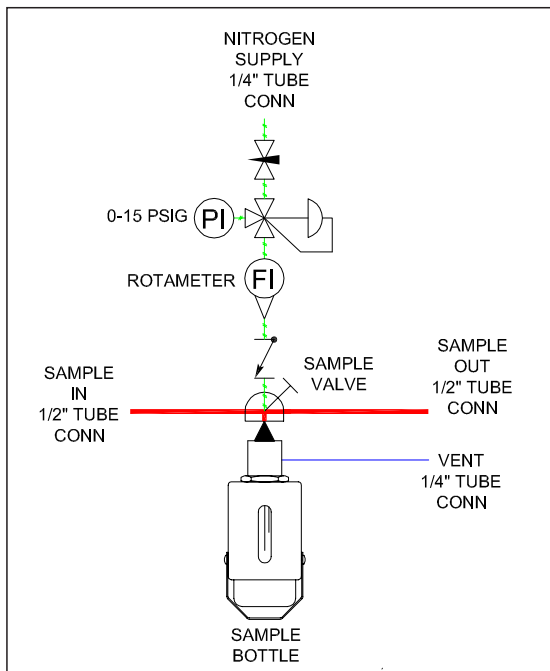

Figure 9 - Bottle, Cap & Septum System
**(Figure 9)** It is suitable for processes that cover a wide range of liquids where process pressure and temperatures are less than 175 psig and 350°F respectively. For more viscous liquids and